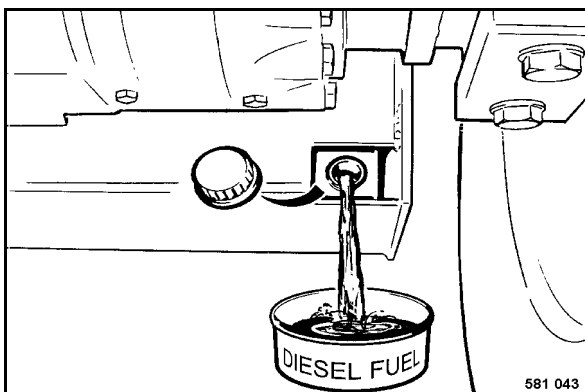

Fig. 151
- Unscrew the cap (Fig. 151) and drain off approx. 5 litres of fuel.